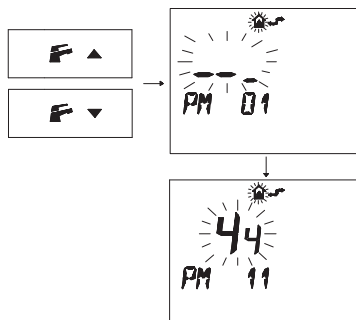

Fig. 7.30
- Press buttons $F \blacktriangledown$ or $F \blacktriangle$ to display the “PM11” program of the pump post-circulation (Fig. 7.30).